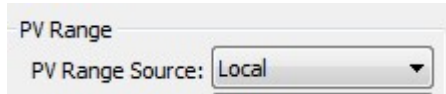

Figure 5.52 PV Range Source Selection
1. Select "detailed Design"->"PV range"-in the drop-down box corresponding to"PV range source", which includes local and remote sources, as shown in Figure 5.52